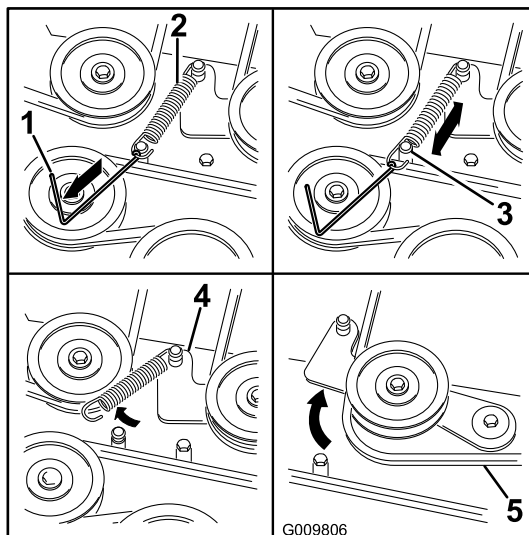

Figure 73
- Using a spring removal tool, (Toro Part No. 92-5771), remove the idler spring from the deck post to remove tension on the idler pulley (Figure 73).
11. Install the new belt around the mower pulleys and the clutch pulley under the engine (Figure 73).
12. Using a spring-removal tool, (Toro Part No. 92-5771), install the idler spring over the deck post and placing tension on the idler pulley and mower belt (Figure 73).